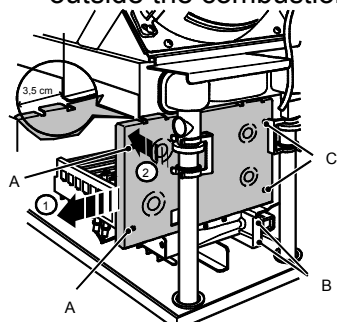
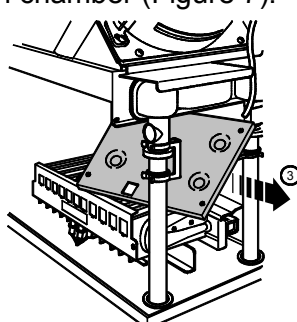

Figure 6
Figure 7
11) Remove the front panel of the combustion chamber moving it to the left for about 1.5 in, rotating it inside the combustion chamber (Figure 6 follow the arrows) and then pulling it outside the combustion chamber (Figure 7).